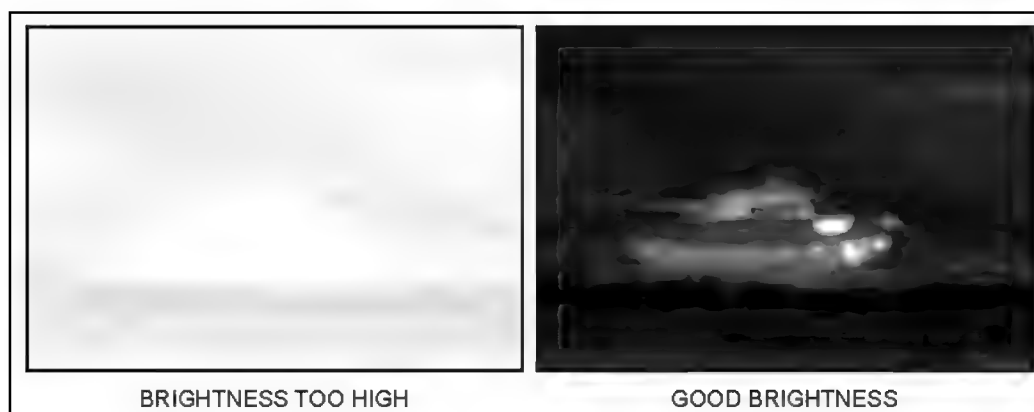

Figure E-23. High versus good brightness adjustments.
- Brightness too high (Figure E-23). When the brightness is too high, almost all objects in the target scene appear bright green, a few appear in shades of green, and none are black.